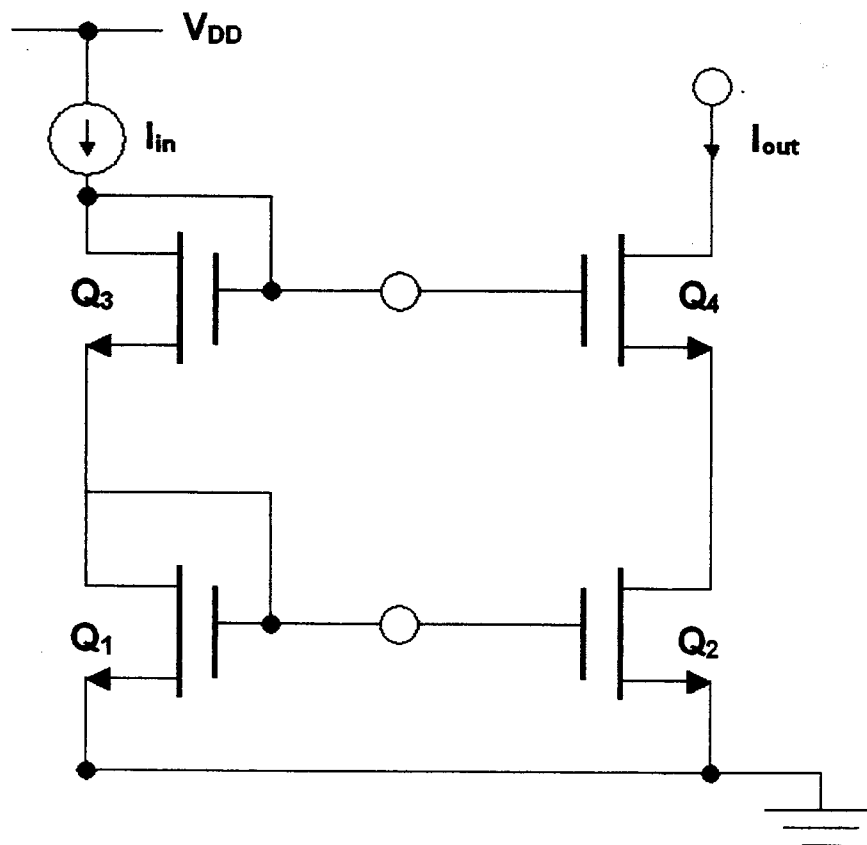

Figure 3.2
- (b) For the current mirror of Figure 3.2, estimate the minimum output voltage while still maintaining saturated devices. Derive this voltage swing in terms of the device threshold voltage,  $V_T$ , clearly stating any assumptions you make. [5]